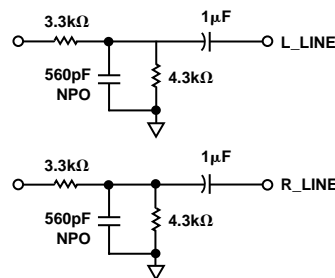
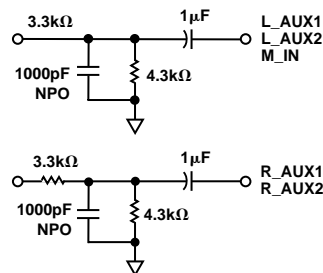

Figure 27. 2 V rms Line-Level Input Circuit for LINE Inputs
Figure 28. 2 V rms Line-Level Input Circuit for M\_IN and AUX Inputs
The AD1845 Stereo Codec has been designed to require a minimum of external circuitry. The recommended circuits are shown in Figures 27 through 35.
A circuit for 2 V rms mono, line-level inputs and auxiliaries is shown in Figure 27 and Figure 28. Note that this is a divide-by-two resistive dividers considering the codec input impedance. The input resistor and 560 pF (1000 pF) capacitor provides the single-pole of antialias filtering required for the ADCs. If line-level inputs are already at the 1 V rms levels expected by the AD1845, the resistors in parallel with the 560 pF (1000 pF) capacitors can be omitted. If the application does not route the AUX2 inputs to the ADCs, then no antialias filtering is required (only the 1  $\mu$ F ac coupling capacitor).
2. The AD1845 requires the input antialiasing filters for the ADCs (refer to Figures 27 and 28). The CS4231 can use the same filters with no degradation in performance. For compatibility it is suggested that the filters be added.